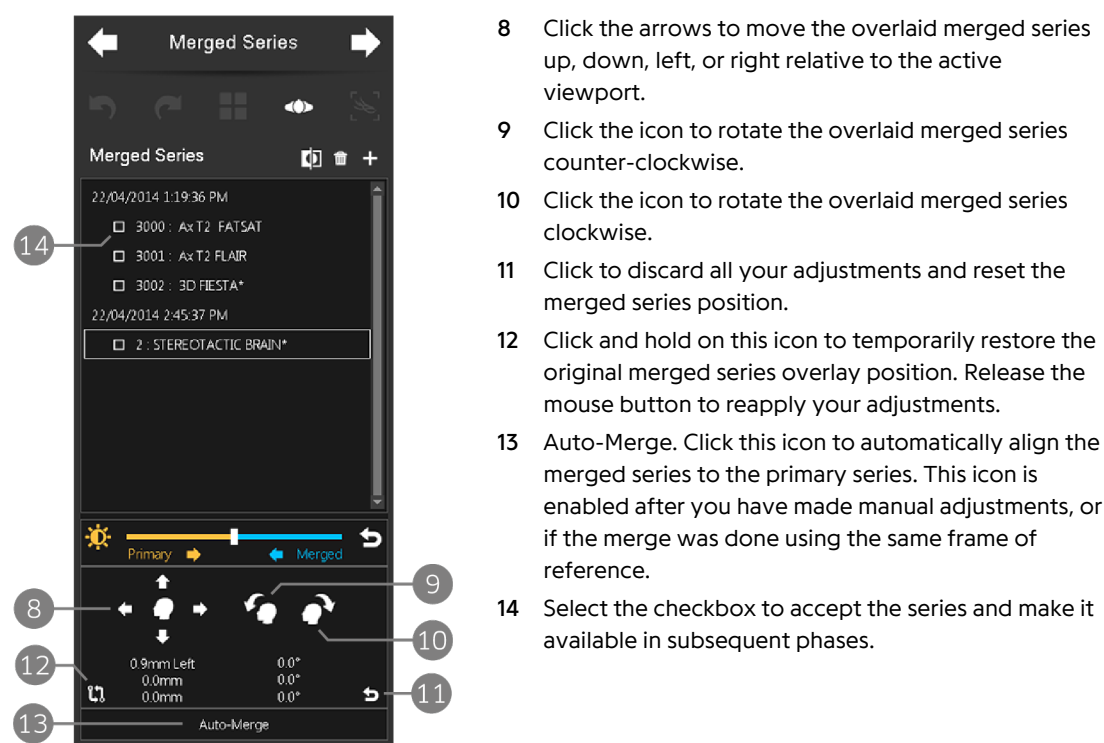

Figure 50 Merged Series phase panel, continued
- Manually adjust the alignment. Use the alignment controls (items 8, 9, and 10 in Figure 50 on page 68) to move or rotate the merged series.
- Automatically adjust the alignment. Click the **Auto-Merge** button (item 13 in Figure 50 on page 68) to automatically adjust the alignment of the merged series to the primary series.
5. Select the checkbox (item 14 in Figure 50 on page 68) to accept the series and make it available in subsequent phases.